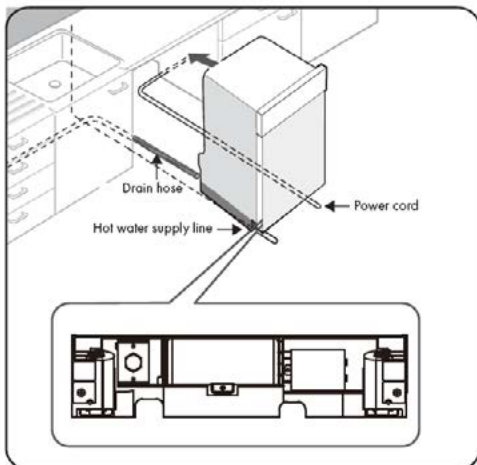

Figure 6
3. Place the dishwasher so that the power cable is in the right channel of the base of the dishwasher (see Figure 6). Use standard duct tape or cable ties to secure the electrical cable to their adjacent channels in the base. This can prevent the electrical cable from being squeezed when you push the dishwasher into place.